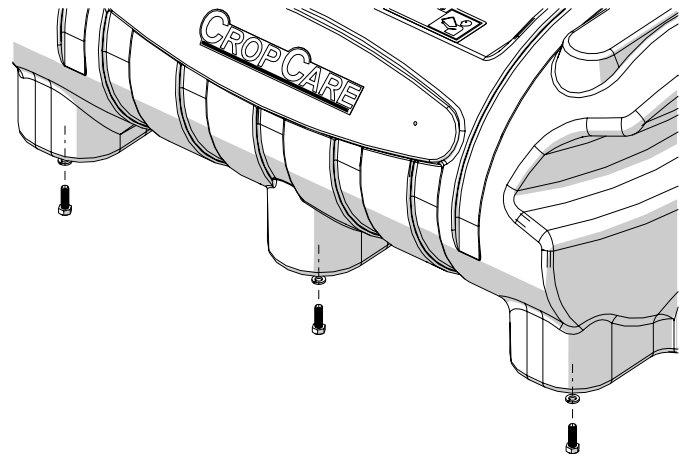
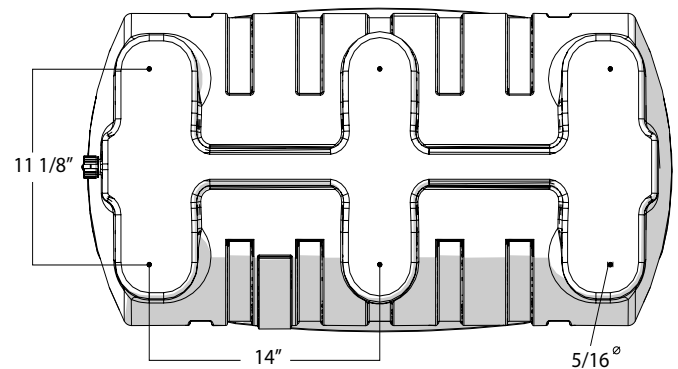

Figure 3: Applicator unit mounting
Figure 4: Bottom hole dimensions
4. For optimal stability, mount the liquid applicator with bolts using the six holes in the sprayer's bottom. See Figure 3 on page 6. It is recommended that you measure the distance between the bottom mounting holes because tank measurements can vary up to 1/8". See figure 4 on page 6.